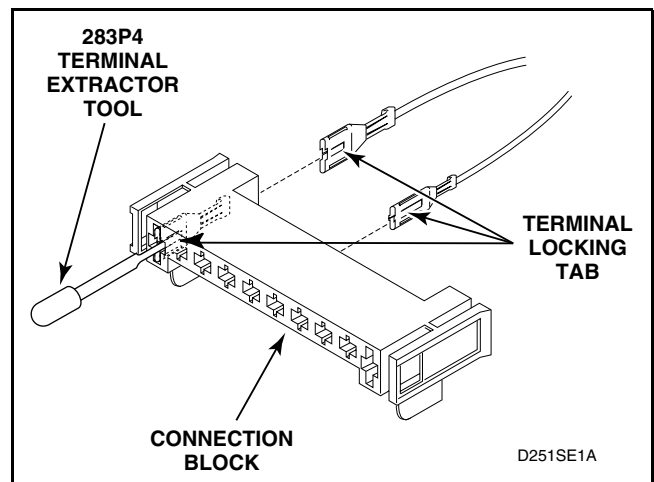

Figure 24
- (1) Insert the tool into the block on the back of the terminal being removed. Refer to *Figure 24*.
- (2) Apply tool pressure to compress the terminal locking tab on terminal and force the terminal and wire out back side of connection block. Refer to *Figure 24*.